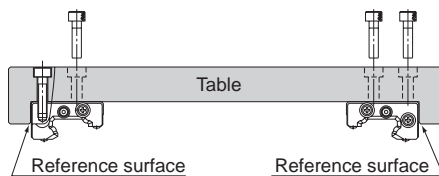

Fig.21
- (1) Align the table with the reference-surface of each LM block and fully fasten the mounting bolts to secure the blocks. Both ends of the table must have a datum surface. (Fig.21)